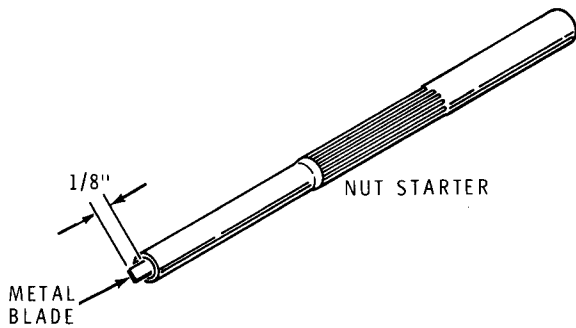

Figure 1-3
- (✓) Refer to Figure 1-3 and use a pair of pliers to push the 1" steel blade into the smaller end of the cut resistor until 1/8" remains exposed. Use this tool to adjust the controls on the circuit board.
- () Refer to Figure 1-3 and use a pair of pliers to push the 1" steel blade into the smaller end of the nut starter until 1/8" remains exposed. Use this tool to adjust the controls on the circuit board.